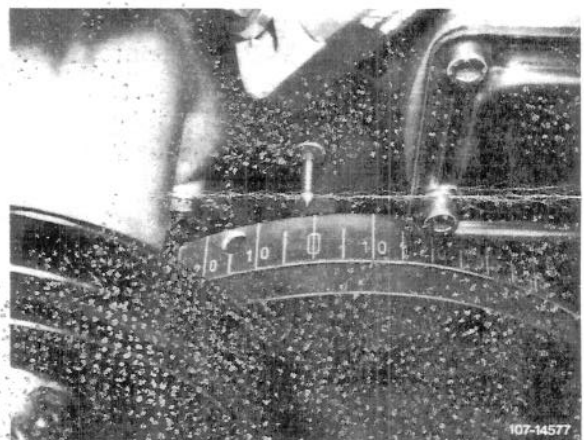

Figure 2
9. Set engine at ignition TDC for cylinder no. 1 (Figure 2). Loosen front crankshaft bolt and the six pulley screws with the aid of the engine locking tool inserted in the ring gear (starter removed), and recheck TDC setting.